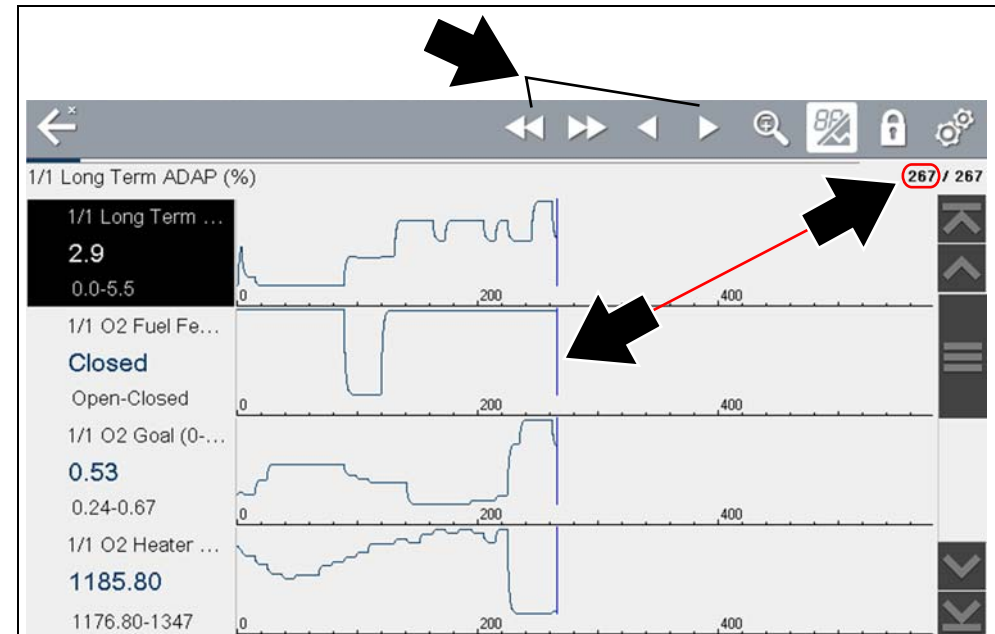

Figure 5-15
3. In graph view, use the control icons to move through the data (Figure 5-15).
The blue (vertical cursor) (Figure 5-15) indicates your position in the data and is denoted by the current position value (Figure 5-15) in the counter display. The cursor displays in all PIDs.
Pressing the Save icon more than once in the same data collection session will create multiple (.SCM) files. Each file will contain gray (vertical cursors) (Figure 5-15) indicating where the data was paused.